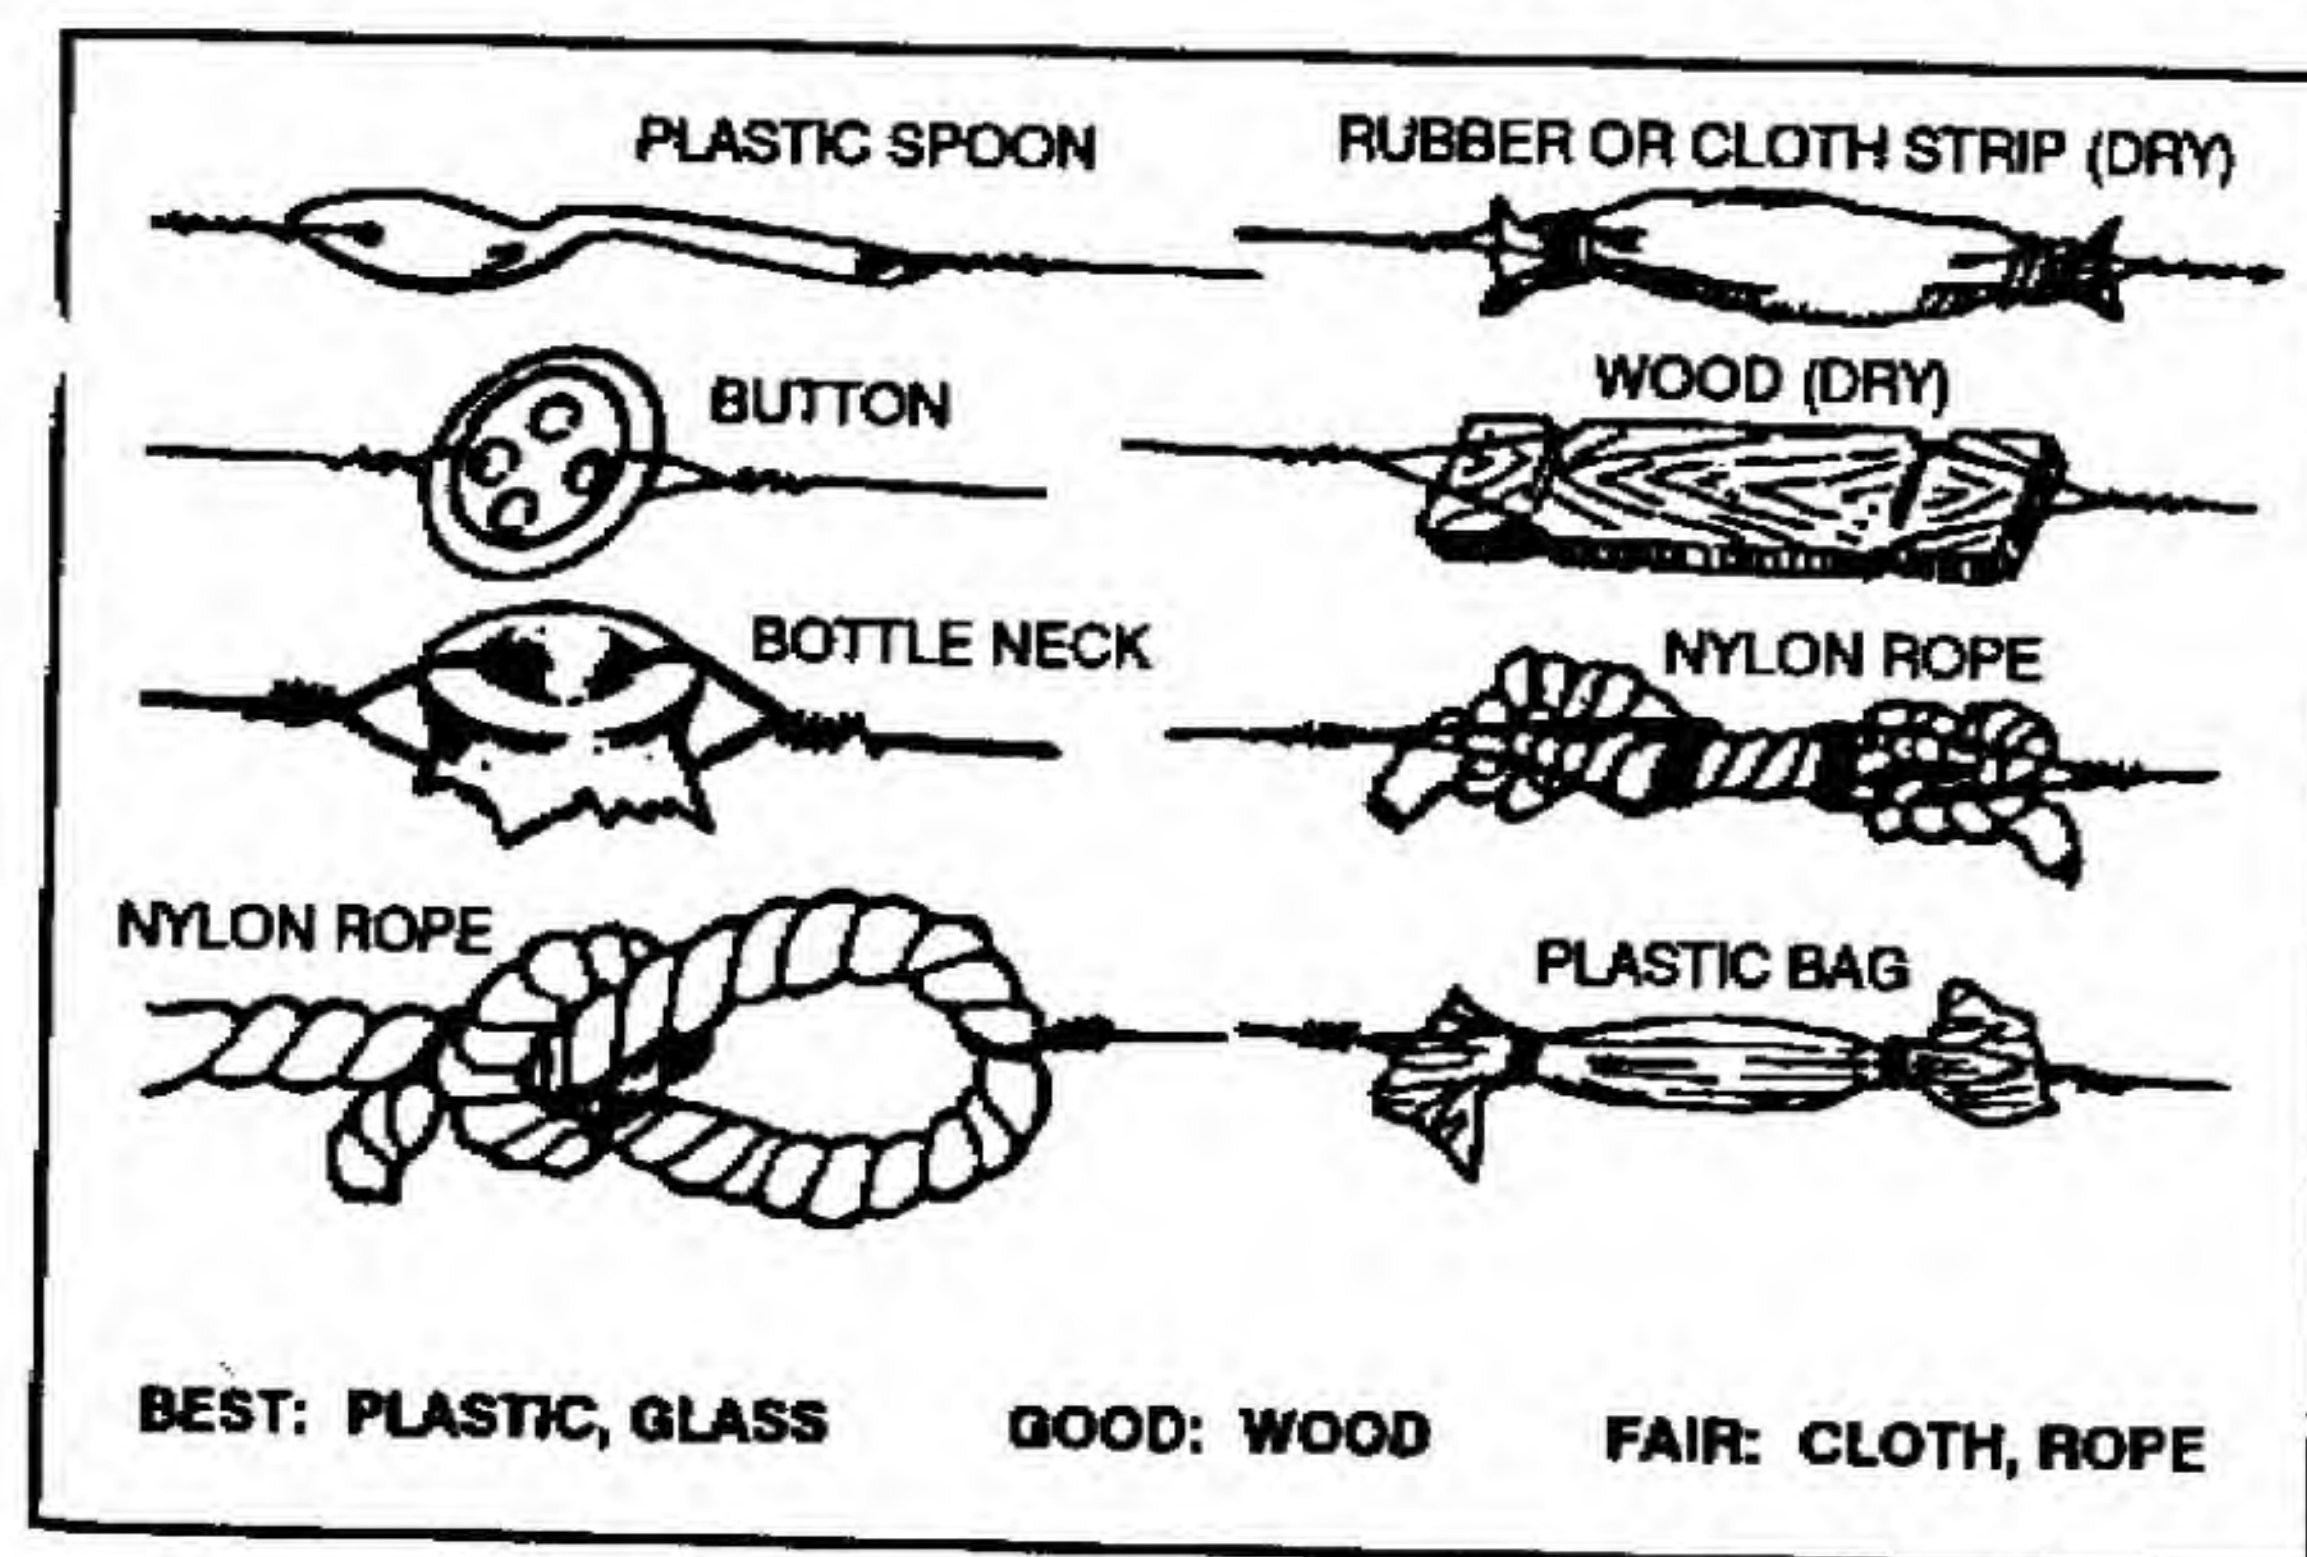

Figure 7-2. Improvised insulators.
(1) When one or more wires of an antenna are broken, the antenna can be repaired by reconnecting the broken wires. To do this, lower the antenna to the ground, clean the ends of the wires, and twist the wires together. Whenever possible, solder the connection.
(2) If the antenna is damaged beyond repair, construct a new one. Make sure that the length of the wires of the substitute antenna are the same length as those of the original.
(3) Antenna supports may also require repair or replacement. A substitute item may be used in place of a damaged support and, if properly insulated, can be of any material of adequate strength. If the radiating element is not properly insulated, field antennas may be shorted to ground and be ineffective. Many commonly found items can be used as field-expedient insulators. The best of these items are plastic or glass to include plastic spoons, buttons, bottle necks, and plastic bags. Though less effective than plastic or glass but still better than no insulator at all are wood and rope. The radiating element—the actual antenna wire—should touch only the antenna terminal and should be physically separated from all other objects, other than the supporting insulator. (See Figure 7-2 for various methods of making emergency insulators.)